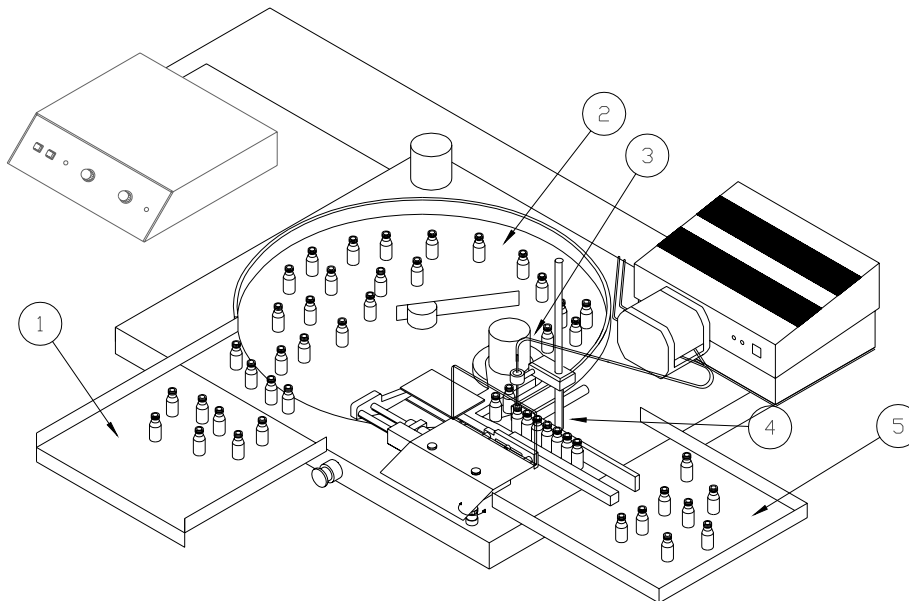

Fig. 11
The filling series starts when the **mode** switch is in the **automatic** position. When the sensor detects a bottle, this will go to the filling area (4) Fig.11 and the filling machine will start.